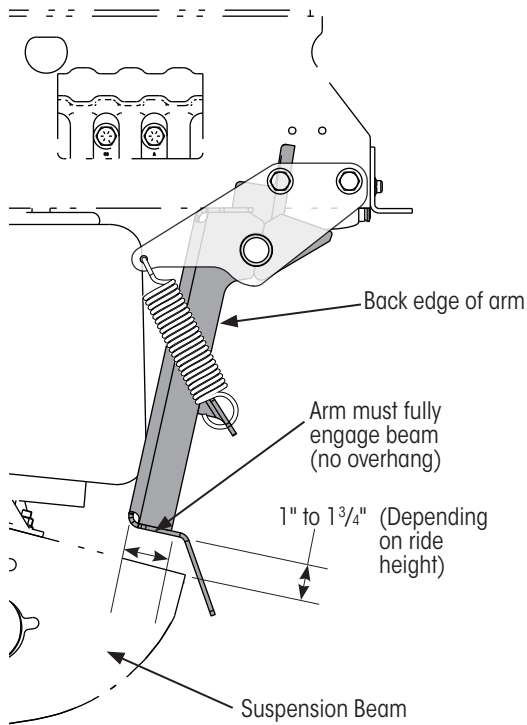

Figure 24: Checking arm-to-beam clearances
13. With the suspension at the designed ride height, measure the distance from the top of the beam to the bottom of the arm (Figure 24). An acceptable measurement range is 1" to 1¾".
14. Check the arm position relative to the beam (Figure 24). The arm must have full engagement with the beam. In other words, the back edge of the arm must be entirely positioned over the top surface of the beam (ignore the beam side surfaces when checking arm position).